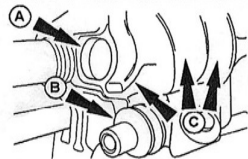

FIGURE 5
- Clean the gearbox housing halves of grease and/or broken plastic white gear pieces, using small brush. (Refer to Figure 5).
- Install the thrust disc and worm gear into the gearbox housing. (Refer to Figure 5).